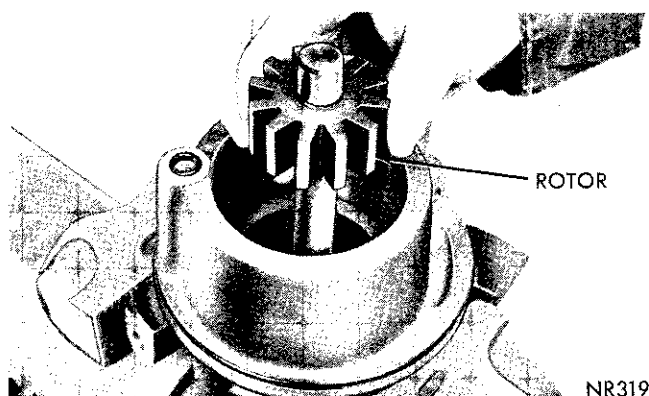

Fig. 27—Installing Rotor
- (8) Install rotor and shaft in cam ring and carefully place 12 rollers in cavities of rotor (Figs. 27 and 28). Lubricate rotor, rollers, and cam I.D. with power steering fluid.
- (9) Before installing pressure plate, rotate shaft by hand to make sure rollers are all seated parallel with pump shaft.